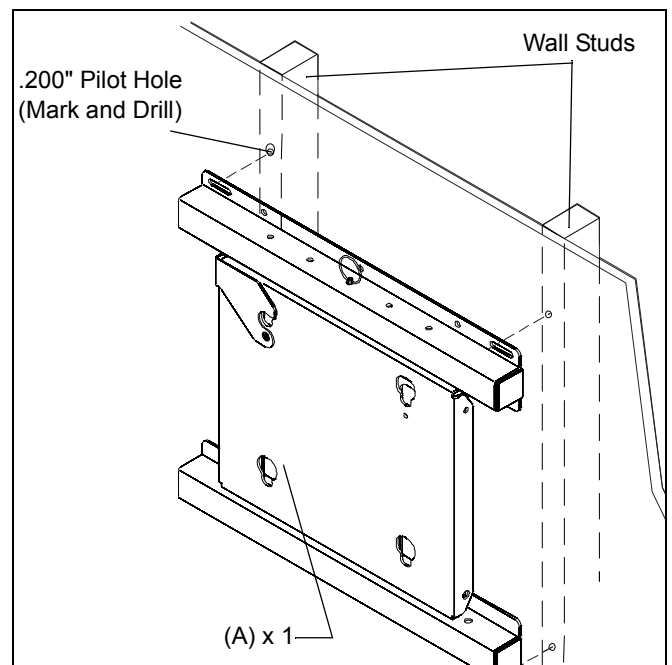

Figure 4
3. Place mount assembly (A) against wall, level mount, and mark four pilot hole locations (See Figure 4).
4. Drill four pilot holes at marked locations. (See Figure 4).